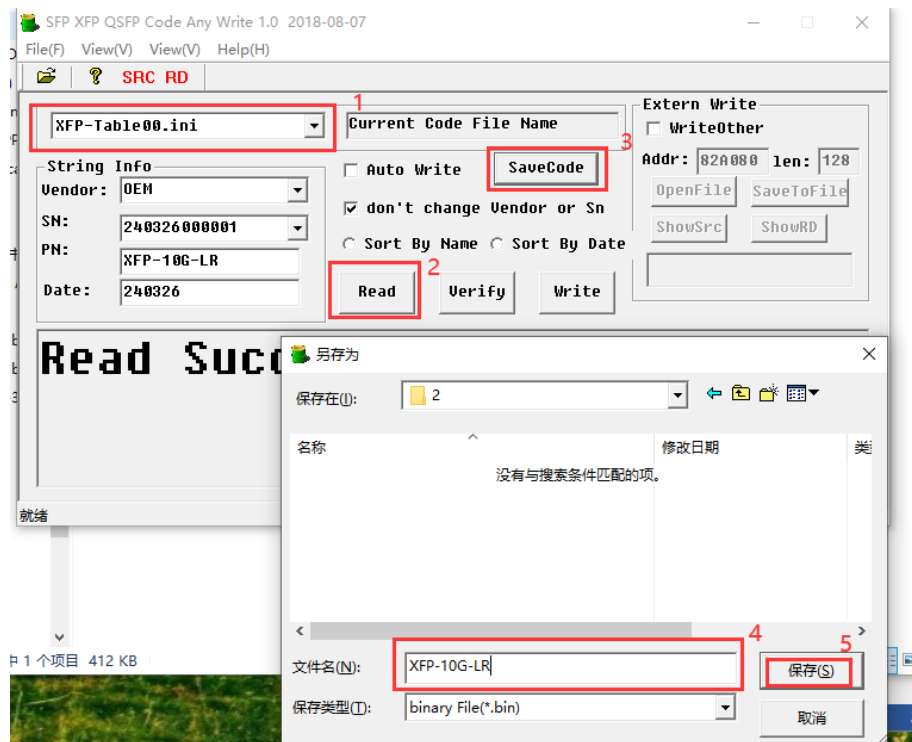

Figure 30
2.1 Select the configuration file corresponding to the XFP optical module. For XFP optical transceivers, you can use the "XFP-Table00" configuration file to read the code(as shown in Figure 30)
2.2 Click the "Read" (as shown in Figure 30)
2.3 Click the "SaveCode" (as shown in Figure 30)
2.4 Name the code (as shown in Figure 30)
2.5 Save the code to your computer (as shown in Figure 30)